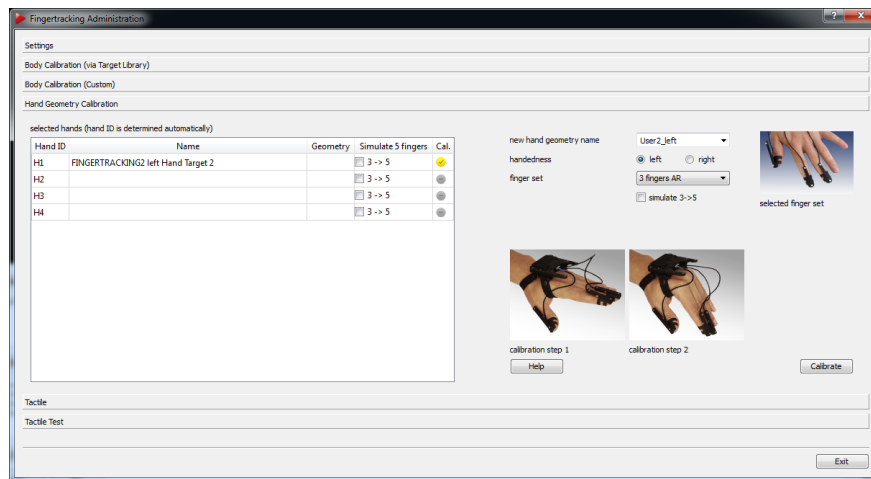

Figure 6.23: Fingertracking Administration - Hand Geometry Calibration
- all fingers have to be stretched out (see left picture in dialogue, refer to figure 6.23 on page 96)
- keep the fingers stretched out (see right picture in dialogue, refer to figure 6.23 on page 96)